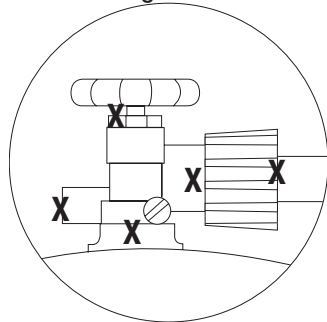

Figure 5
8. If igniter does not light burner, use a lit match secured with the lighting rod provided to light burners manually. Position the lit match near side of the burner. (Figure 5)